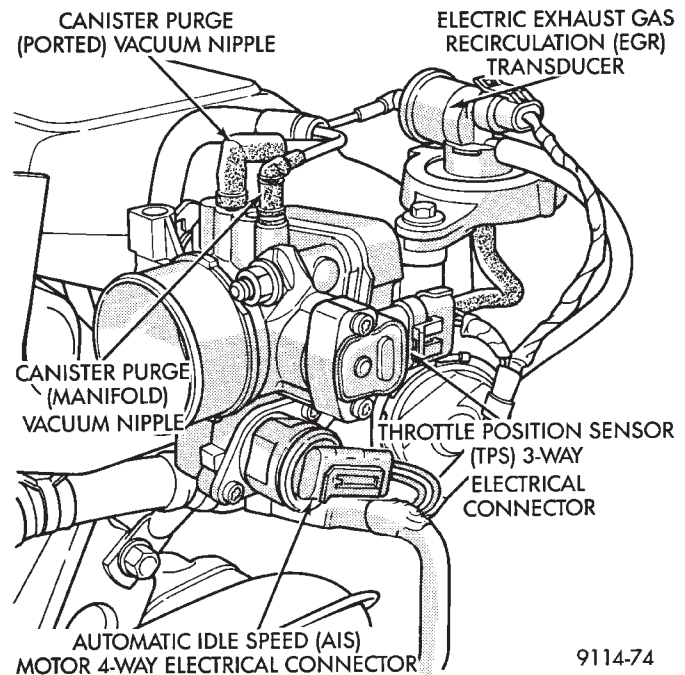
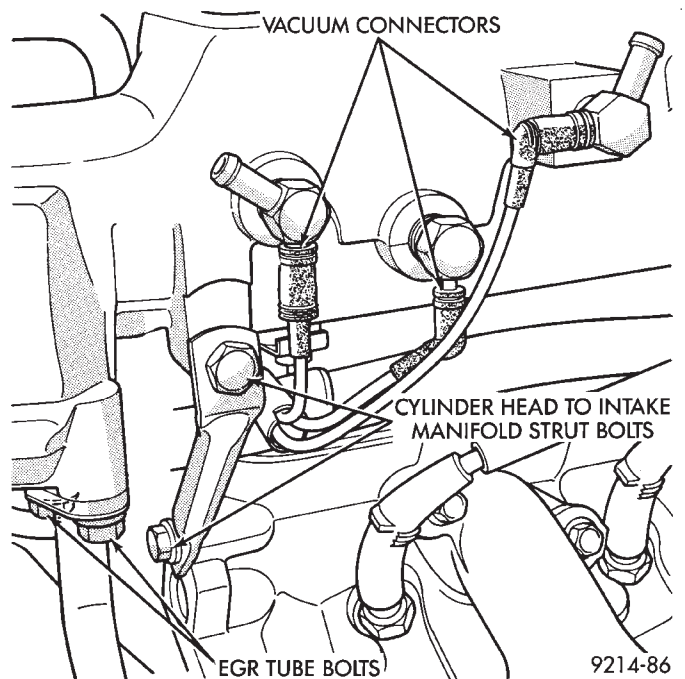

Fig. 7 Electrical and Vacuum Connection to Throttle Body
Fig. 8 EGR Tube
- (5) Disconnect automatic idles speed (AIS) motor and throttle position sensor (TPS) electrical connectors (Fig. 7). Refer to Automatic Idle Speed motor and Throttle Position Sensor in this section.
- (6) Remove vacuum hose harness from throttle body (Fig. 7).
- (7) Remove PCV and brake booster vacuum hoses from air intake plenum.
- (8) Remove EGR tube to intake manifold flange bolts (Fig. 8).
- (9) Remove vacuum harness connectors from intake plenum (Fig. 8).
- (10) Remove cylinder head to intake plenum strut (Fig. 8).
(14) Tighten the cylinder head to intake manifold strut bolts to 54 N•m (40 ft. lbs.) torque (Fig. 8).
(15) Connect ground strap, MAP and heated oxygen sensor electrical connectors.
(16) Connect vacuum harness to intake plenum. Connect PCV system hoses.
(17) Using a new gasket, connect the EGR tube to the intake manifold plenum. Tighten screws to 22 N•m (200 in. lbs.) torque.
(18) Clip wiring harness into the hole in the throttle cable bracket.
(19) Connect electrical connectors to the throttle position sensor (TPS) and Automatic Idle Speed (AIS) motor.
(20) Connect vacuum harness to throttle body.
(21) Install the direct ignition system (DIS) coils. Tighten fasteners to 12 N•m (105 in. lbs.) torque.
(22) Install fuel hose quick connectors fittings to chassis tubes. **Refer to Fuel Hoses, Clamps and Quick Connect Fittings in the Fuel Delivery Section of this Group.** Push the fittings onto the chassis tubes until they click into place. Pull on the fittings to ensure complete insertion. Fuel supply fitting is 5/16 inch and fuel return fitting is 1/4 inch.
(23) Install throttle cable.
(24) Install air cleaner and hose assembly.